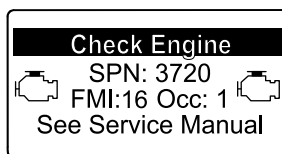

Figura 71
- Engine warning (Avertisment motor) SPN 3720, FMI 16 (Figura 71)